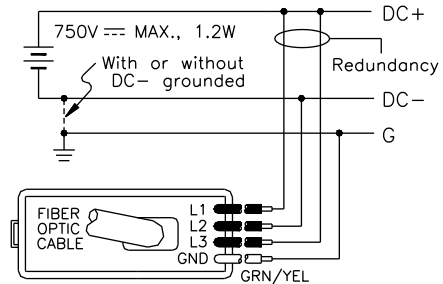

Fig. 3
- 7.) For DC configured power wire as per Fig. 3, PG. 6.